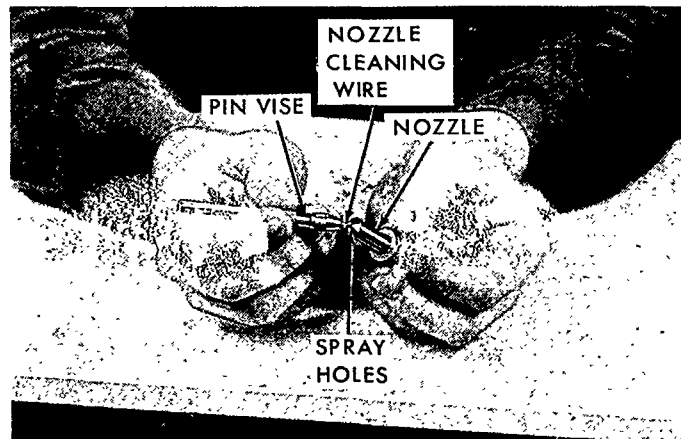

Figure 32
3. Clean the spray holes in the nozzle with the Nozzle Cleaning Wire and the Pin Vise, page 32. The wire should protrude from the Pin Vise just far enough to pass through the holes in the nozzle. Rotate the the Pin Vise slowly without applying undue pressure, being careful not to break the wire, Figure 32.